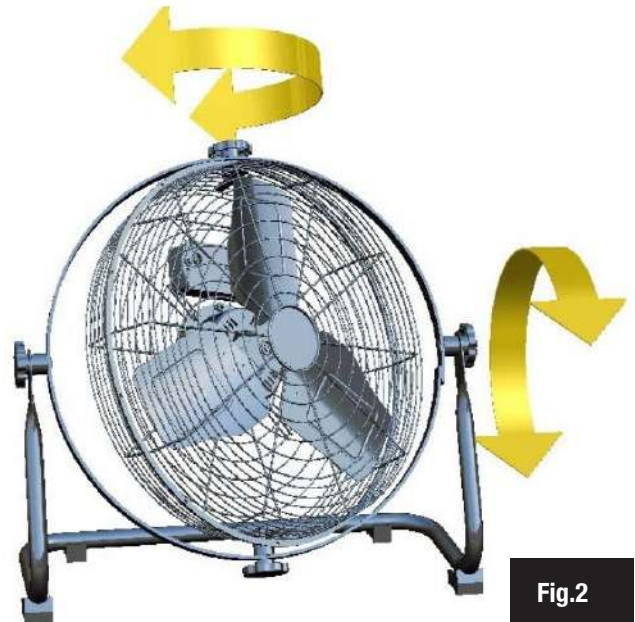

Fig.2
2. Adjust the direction of the air flow by moving from side to side and tilting the fan grill up or down, as required as shown in **Fig. 2**.